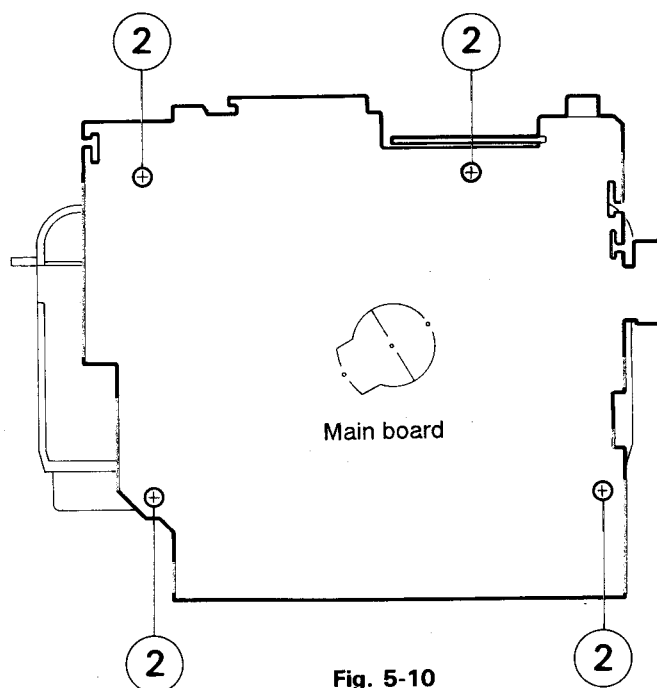

Fig. 5-10
■ Removing the main board (See Figs. 5-10~12)
2. From the back of the cassette mechanism assembly, remove the four screws (2) retaining the main board (See Fig. 5-10).